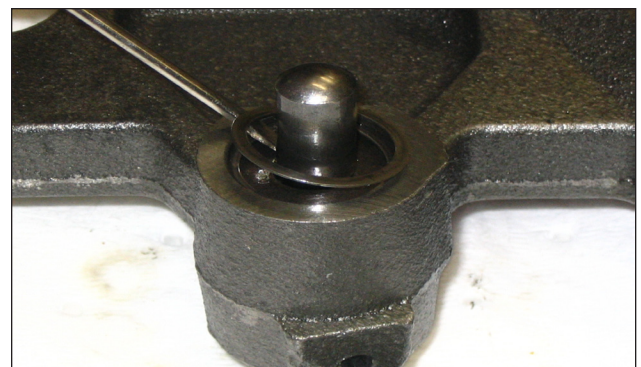

Fig 27
2. Rotate screwdriver around diameter to unwind spirolox. Remove and discard spirolox ring - it cannot be reused (See Fig. 27).